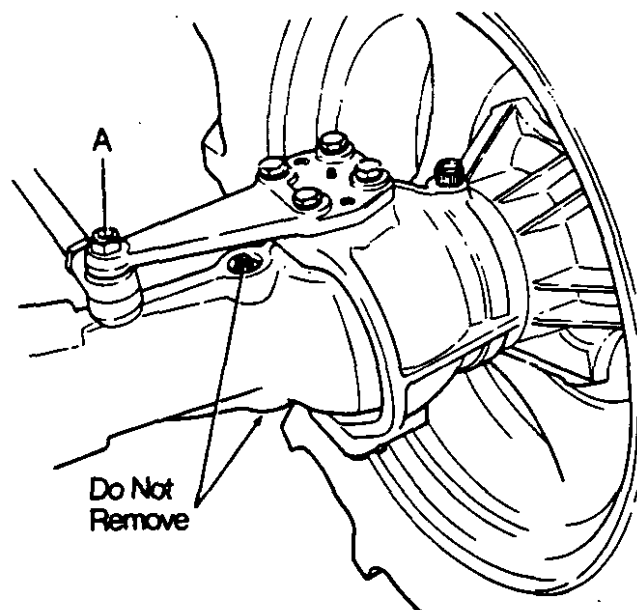

FIGURE 5 STEERING ARM
3. Remove the front end of the steering ram from the steering arm on the axle. Use wire to fasten the steering ram to the main frame. See Figure 5.